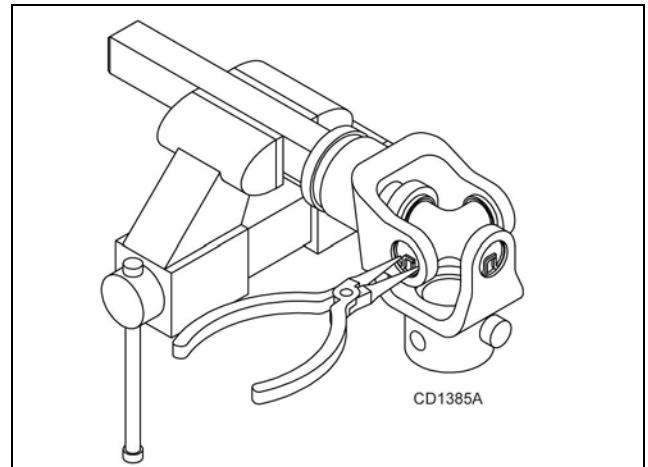

Figure 19. Remove Snap Rings
- Remove external snap rings from yokes in four locations as shown in Figure 19.